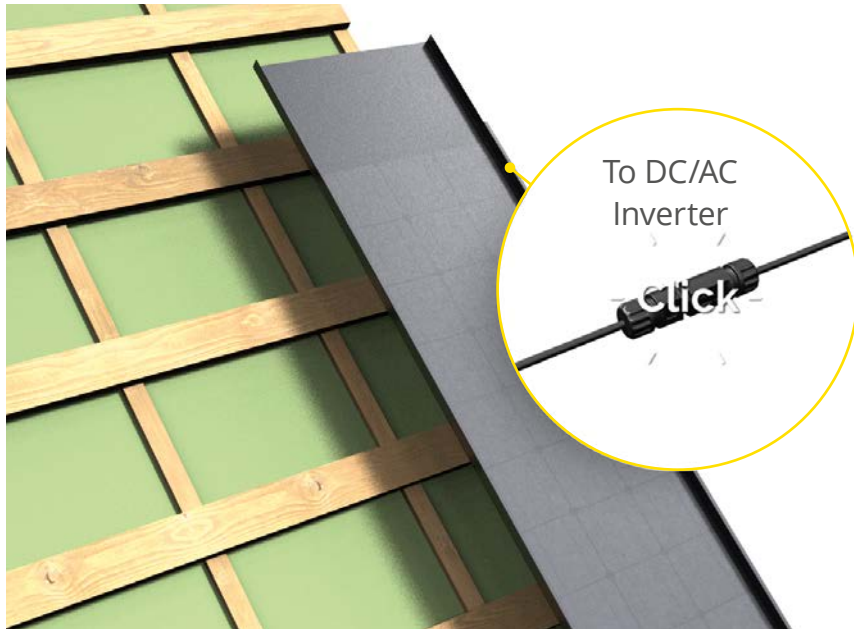

Fig. 6
3.4 Junction box cables should be in reachable position before fastening the panels to the battens. The Roofit.solar panels on the roof will form electrically one or several series-connected strings whose ends are connected to the inverter (Fig. 6). **Make sure that the cables are engaged till the very end and 'clicked'.**